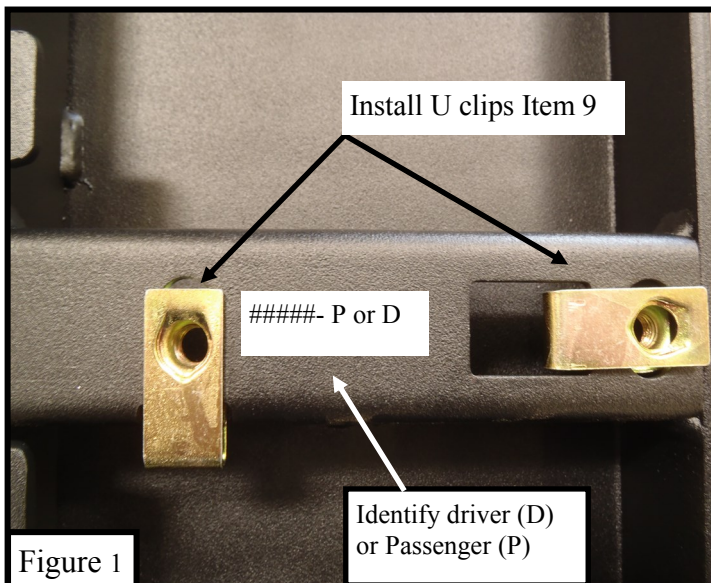

Figure 1
- Identify driver and passenger side running boards and install M8 u-nut clips (Item 9) to the underside of the boards. **Figure 1.**